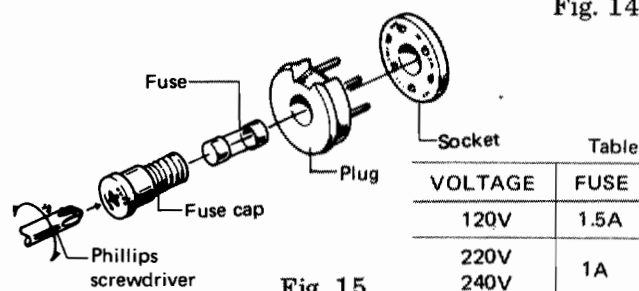

Fig. 15
2. Use a Phillips screwdriver to take out the Fuse cap and fuse (Fig. 15).
2. Use a Phillips screwdriver to take out the FUSE CAP and fuse (Fig. 15).